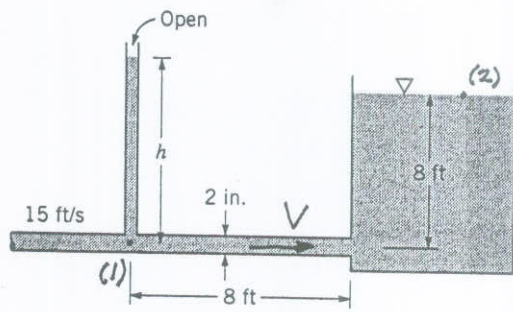

FIGURE P8.86
8.86 Water flows through a 2-in.-diameter pipe with a velocity of 15 ft/s as shown in Fig. P8.86. The relative roughness of the pipe is 0.004, and the loss coefficient for the exit is 1.0. Determine the height,  $h$ , to which the water rises in the piezometer tube.